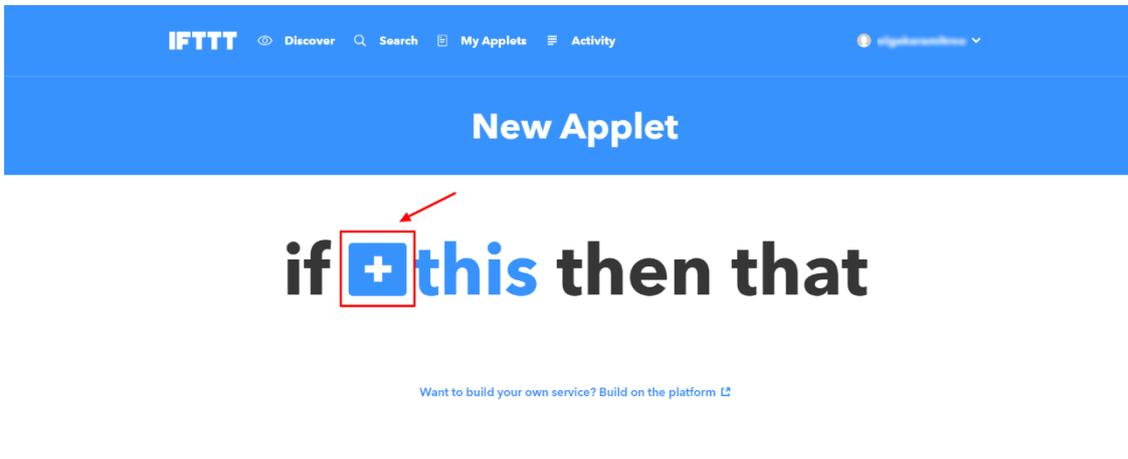

Figure 75: Make an IFTTT Applet
3. On the New Applet screen, make an applet as shown in Figure 75.